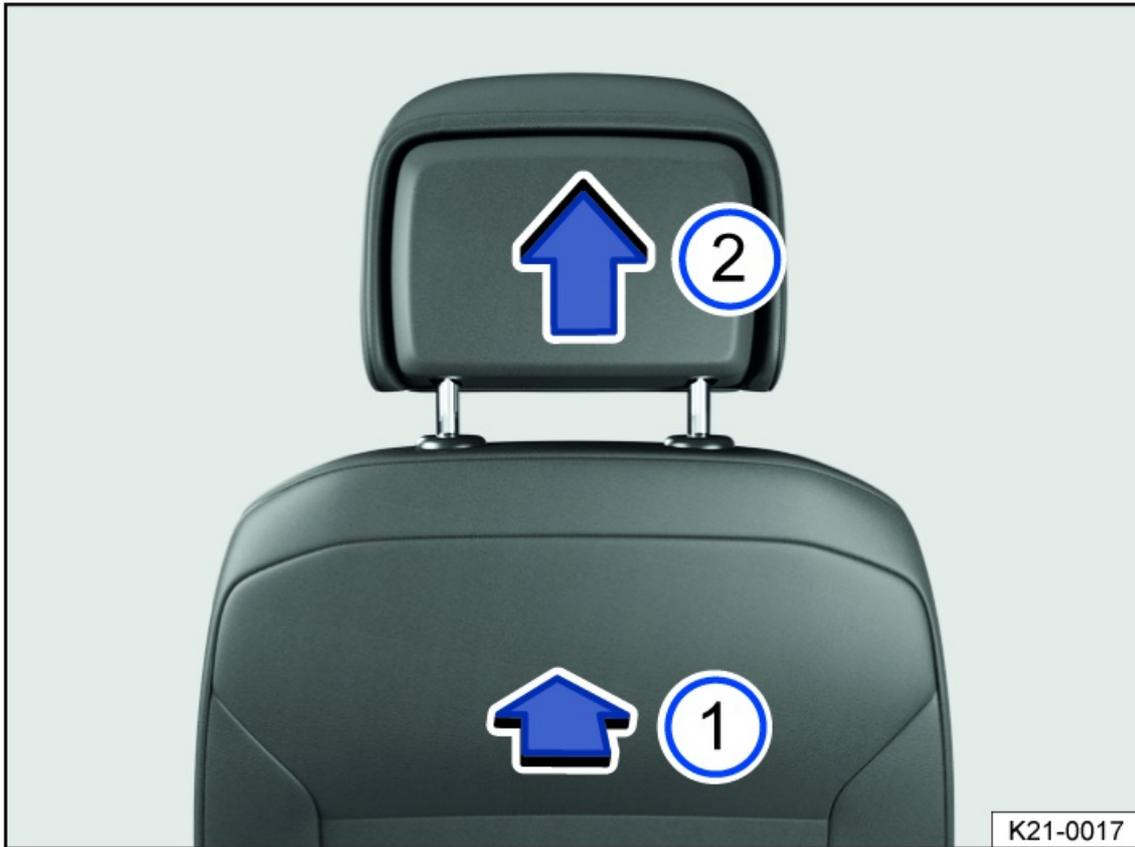

Fig. 71 Removing the front head restraint (general example).
2. To release, find the notch on the rear side in the marked area *fig. 71*, push inwards in the direction of the arrow and hold
3. Pull out the head restraint in the direction of the arrow *fig. 71*.